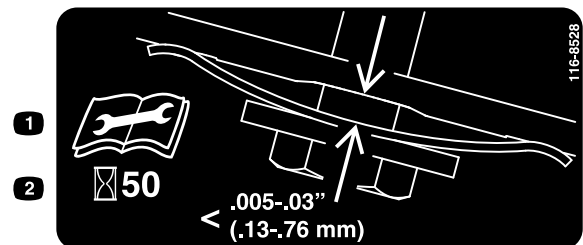

Figure 35
3. Hold a feeler gauge set between 0.13 and 0.76 mm (0.005 and 0.03 inches) against the wall and slide it down behind the belt tension spring; refer to Figure 35.